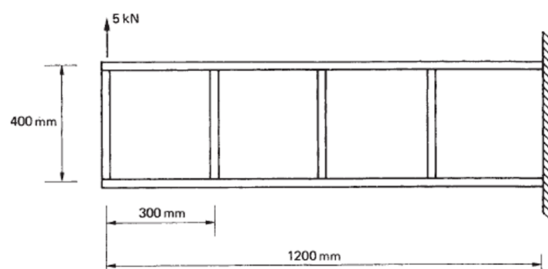

Figure 2
- (b) The beam shown in Figure 2 is assumed to have a complete tension field web. If the cross-sectional areas of the flanges and stiffeners are, respectively, 350mm^2 and 300mm^2 and the elastic section modulus of each flange is 750mm^3 , determine the maximum stress in a flange and also whether or not the stiffeners will buckle. The thickness of the web is 2mm and the second moment of area of a stiffener about a axis in the plane of the web is 2000mm^4 ; $E = 70000\text{ N/mm}^2$.